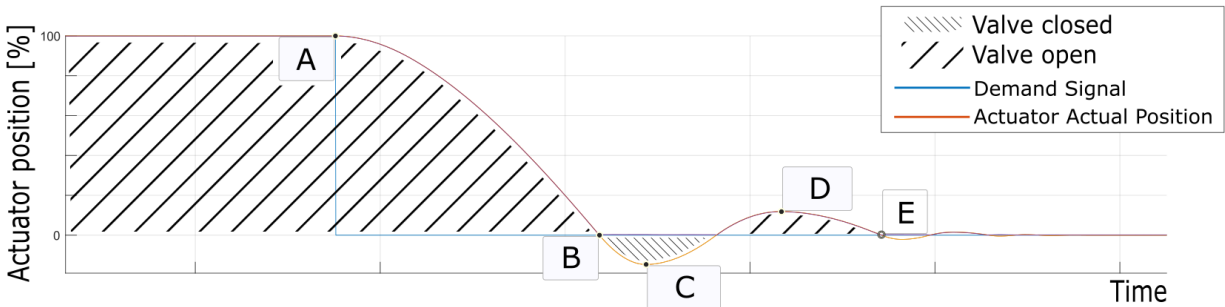

Figure 2-2. Failure Mode
Bounce is an effect of a bumper-like action of the soft stop spring (described above). Bounce will occur only on loss of electrical power to the DVP, certain wiring faults, and in rare cases of internal fault conditions within the positioner. When the actuator remains under the control of the positioner, there will be no bounce on closing the valve as the positioner will decelerate the actuator close to demand position. An example of bounce action can be seen in Figure 2-2.
In Figure 2-2, before the time (A) position demand is 100% and the actuator holds its position, with the valve open. At the time (A), the position control is lost, and the actuator is back driven by the return spring only. Note that from the point (A) the actuator is no longer under the control of the positioner. The return spring drives the actuator and valve to the 0% position (B) – the valve is shut, but the actuator motor rotor continues to rotate and drive into the soft stop mechanism, dissipating the rotary motion energy. At the time (C), the energy stored in the bumper soft stop mechanism begins to drive the actuator back into the open direction. At this time, the maximum impact load is exerted on the valve stem. Energy stored in the soft stop mechanism is high enough to compress the return spring and thus open the valve when moving toward point (D). The maximum bounce is observed at time (D). Each subsequent bounce is significantly smaller, up to the point of complete equilibrium (E) (less than a few bounces).
¹ Position measured at maximum bounce-back, characteristic point (D), according to Figure 2-2. Specified at maximum operating temperature, when tripped from full 3 in stroke.
² This is a maximum impact load (thrust in extended direction) that actuator will exert during "Shutdown Position" or a "Shutdown System" unpowered trip, corresponds to point (C), according to Figure 2-2.